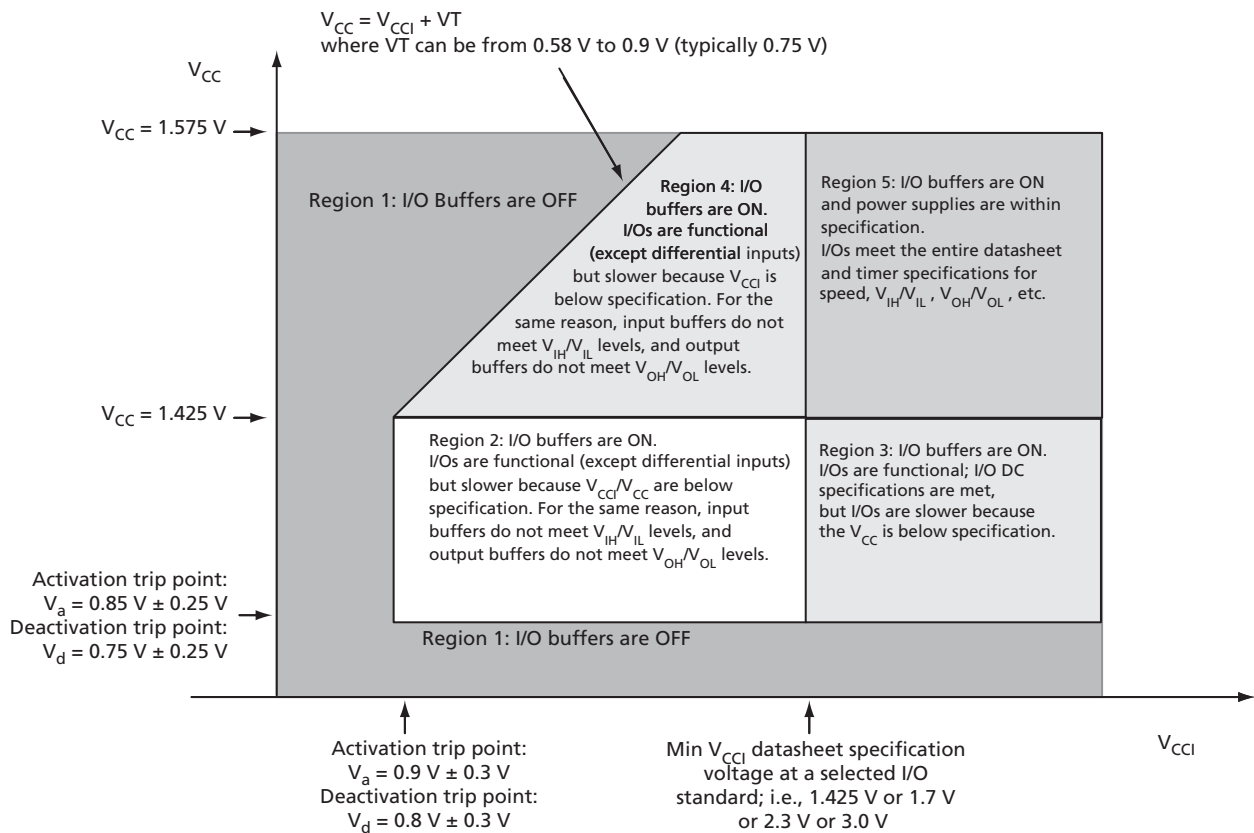

Figure 2-1 • I/O State as a Function of  $V_{CCI}$  and  $V_{CC}$  Voltage Levels
Sophisticated power-up management circuitry is designed into every ProASIC®3E device. These circuits ensure easy transition from the powered-off state to the powered-up state of the device. The many different supplies can power up in any sequence with minimized current spikes or surges. In addition, the I/O will be in a known state through the power-up sequence. The basic principle is shown in Figure 2-1 on page 2-4.
1.  $V_{CC}$  and  $V_{CC1}$  are above the minimum specified trip points (Figure 2-1 on page 2-4).
Actel recommends using monotonic power supplies or voltage regulators to ensure proper power-up behavior. Power ramp-up should be monotonic at least until  $V_{CC}$  and  $V_{CCPLXL}$  exceed brownout activation levels. The  $V_{CC}$  activation level is specified as 1.1 V worst-case (see Figure 2-1 on page 2-4 for more details).